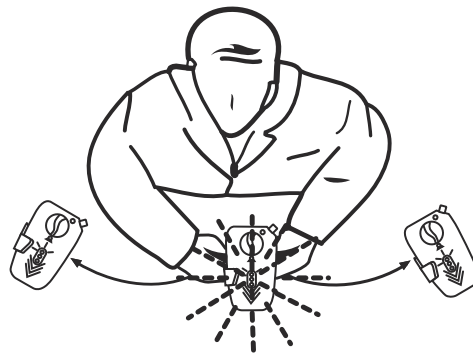

Figure 1-13. Rotating the Transceiver.
- Slowly rotate the transceiver 120 degrees from side to side to determine direction of strongest signal. See figure 1-13.